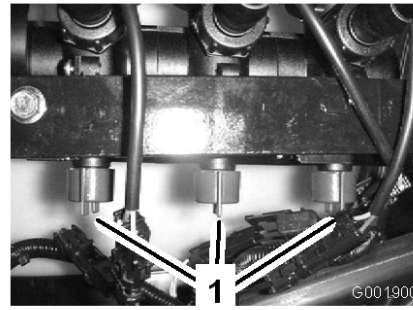

Figure 21
10. Adjust the boom bypass valve (Figure 21) under the boom control valve for the boom you turned off until the pressure reading on the gauge is the same as it was in step 7.